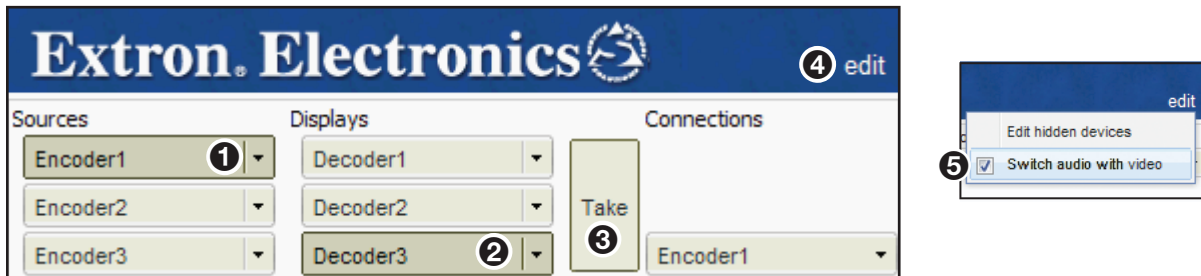

Figure 11. Switcher Page
1. Click on the **Switcher** link located at the top right of the web page. The Switcher page opens (see figure 11).
2. From the **Sources** column, click on an encoder (see figure 11, ①).
3. From the **Displays** column, click on a decoder (②).
4. Click **Take** (③). A connection is created between the selected encoder and decoder. Figure 11 shows that Encoder1 is streaming media to Decoder3.